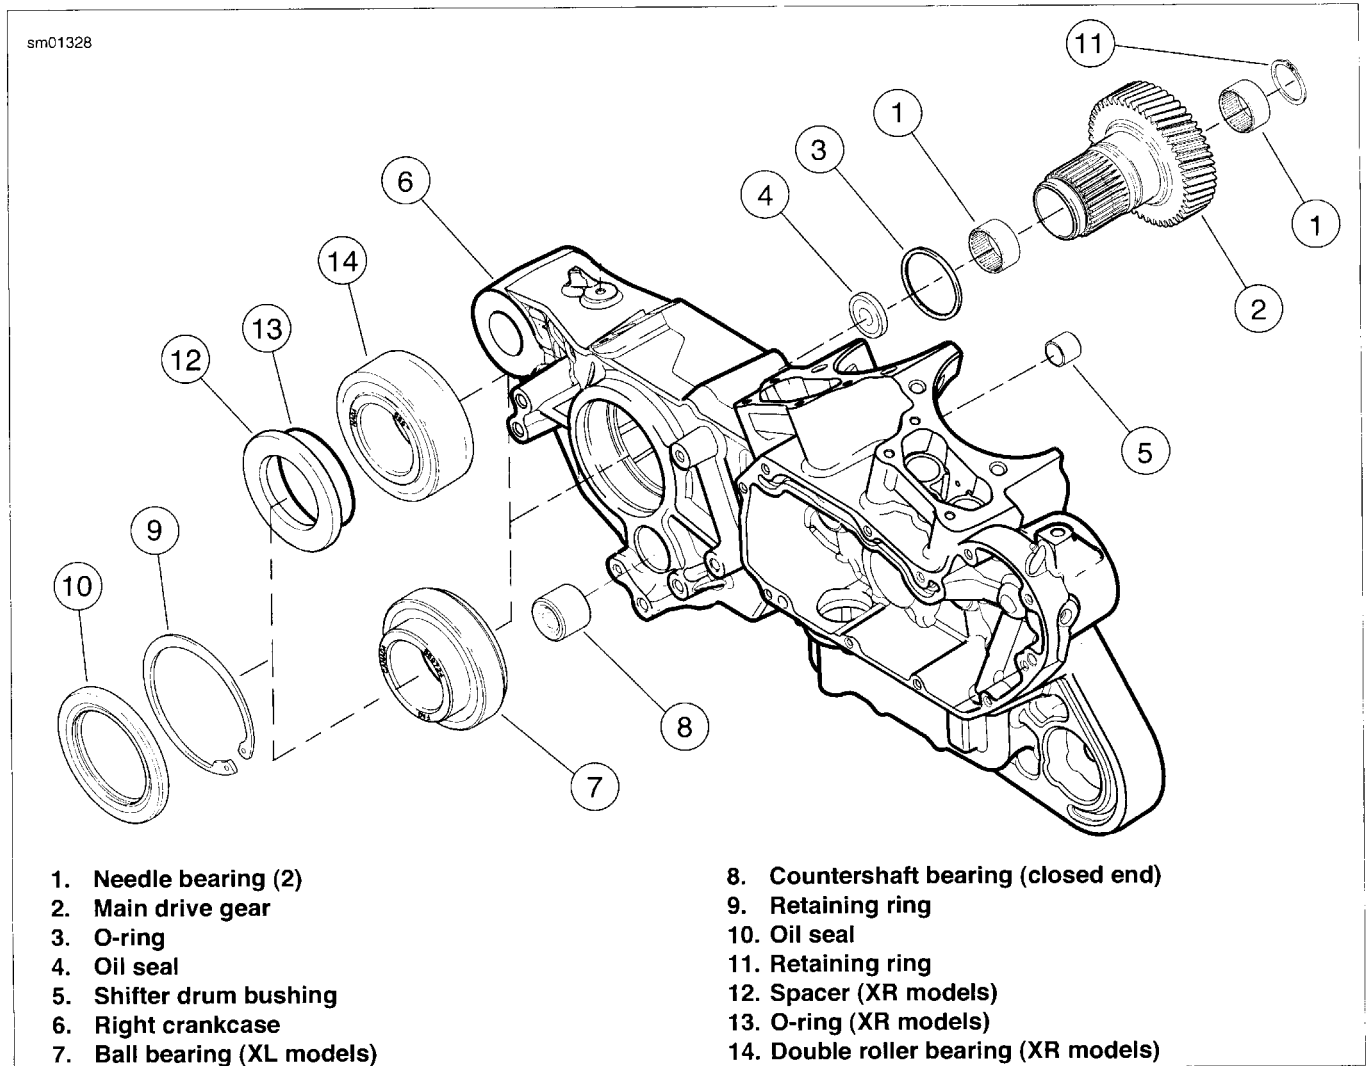
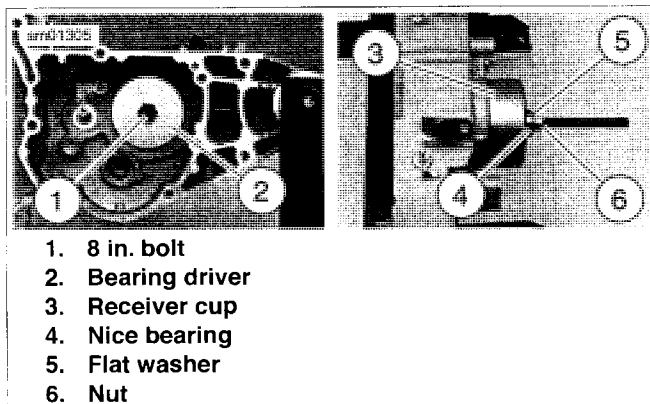
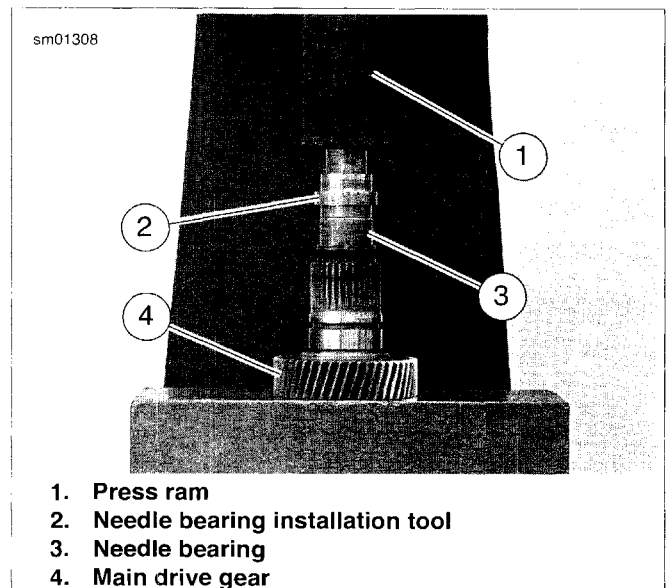
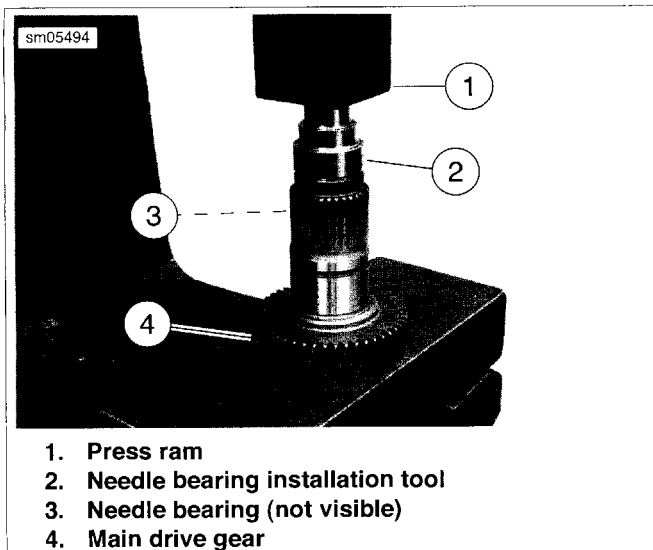

Figure 5-70. Main Drive Gear and Bearing Assembly
Figure 5-74. Removing Main Drive Gear Bearing (typical, XL model shown)
Figure 5-78. Pressing Outer Needle Bearing Assembly into Main Drive Gear: XL Models
Figure 5-79. Pressing Outer Needle Bearing Assembly into Main Drive Gear: XR Models
See Figure 5-70. When removing the main drive gear (2), the gear is pressed out against the resistance of the ball bearing
- See Figure 5-70. Remove and discard oil seal (10). Remove and discard main drive gear bearing retaining ring (9).
- XR Models:** remove spacer (12) and O-ring (13).
- See Figure 5-74. Install driver components: From inside crankcase, position bearing driver (2) over main drive gear bearing.
- Insert 8 IN. BOLT (Part No. HD-35316-4A) (1) through bearing driver and bearing.
- At outside of case, slide RECEIVER CUP (Part No. HD-35316-11) (3) onto bolt and over bearing. Install NICE BEARING (4), FLAT WASHER (5) and NUT (6) over end of bolt.
- See Figure 5-70. Remove retaining ring (11) from inboard end of main drive gear (2). Discard retaining ring.
- See Figure 5-78 or Figure 5-79. Place main drive gear (4) on press bed with gear end facing down.
- Place needle bearing (3) squarely into end of drive gear with lettered side of bearing facing up. Always press on lettered side of bearing to install. Insert installation tool (2) with end stamped "OUTER" facing needle bearing.
- See Figure 5-70. Install **new** retaining ring (11) in inboard end of main drive gear (2).